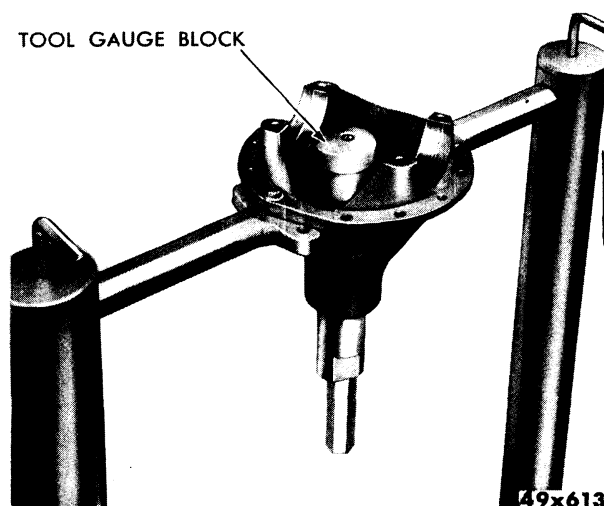

Fig. 36—Installing Gauge Block on Main Body
- (1) Place **gauge block** on top of **body** and tighten in place, as shown in Figure 36 (gauge block takes place of drive pinion).